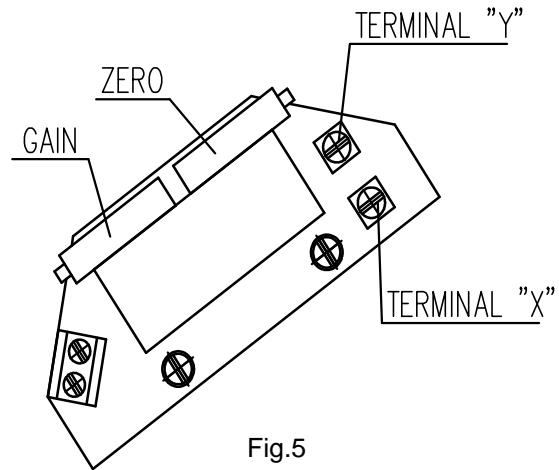

Fig.5
#### 4.4.1 EPV – the 2-wire version (Fig. 5,5a)
- Adjust the resistive transmitter according to the previous chapter. The resistance is to be metered on the terminals X-Y, resp. R-R (Fig. 5,5a). The used transmitter resistance is 100 Ω.